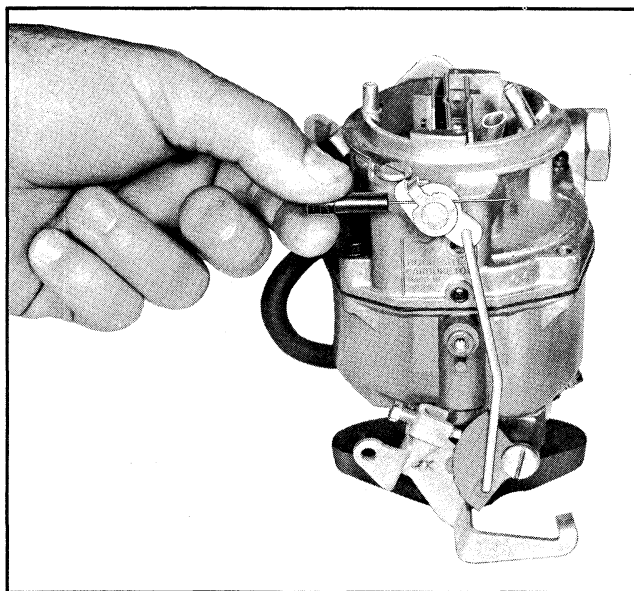

Fig. 6B-29 Trip Lever and Choke Rod Lever Clearance
6. Install choke shaft lever to end of choke shaft (diaphragm side) aligning flats on lever with flats on choke shaft. Large side of lever will hang downward and part no. identification faces outward (Fig. 6B-30). Install retaining screw in end of choke shaft and tighten securely.